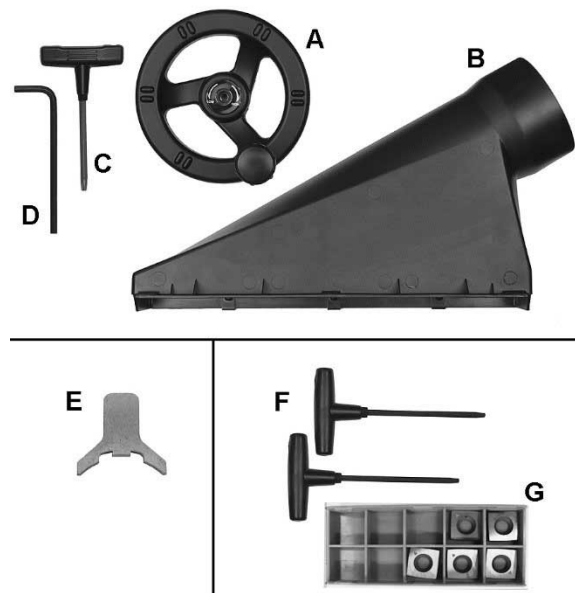
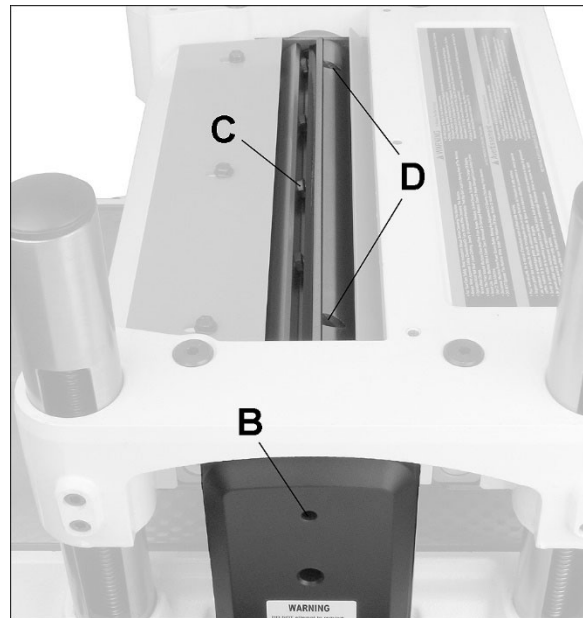
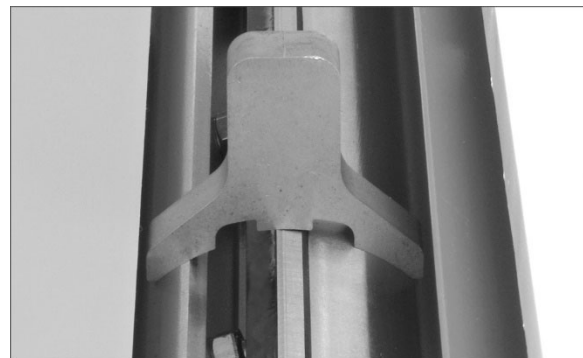

Figure 5-1: contents (not to scale)
Figure 7-2
Figure 7-3
See Figures 5-1 and 5-2.
3. Insert the provided Torx driver (C, Figure 5-1) into hole through belt guard (B, Figure 7-2). Use this to rotate the cutterhead during the procedure.
4. Loosen the five gib screws (C, Figure 7-2) with a 12mm wrench.
7. Place knife gauge onto cutterhead. The knife should just contact the gauge and the gauge sit flush on the cutterhead, as shown in Figure 7-3. If adjustment is needed, turn screws (D, Figure 7-2) in or out with a 3mm hex wrench, until the knife contacts the gauge. Verify this positioning at several points along the knife.
3. Insert provided Torx driver into hole through belt guard (see B, Figure 7-2). Use this to rotate the cutterhead during the procedure.